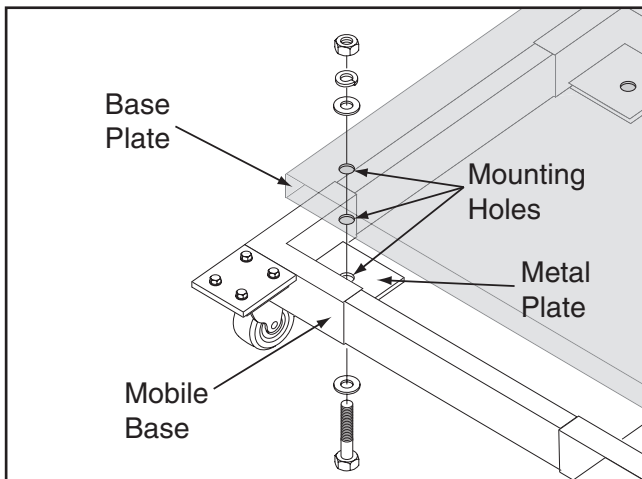

Figure 23. Mounting base plate to mobile base.
6. Secure the base plate to the mobile base with hex bolts, hex nuts, flat washers and lock washers, as shown in **Figure 23**.